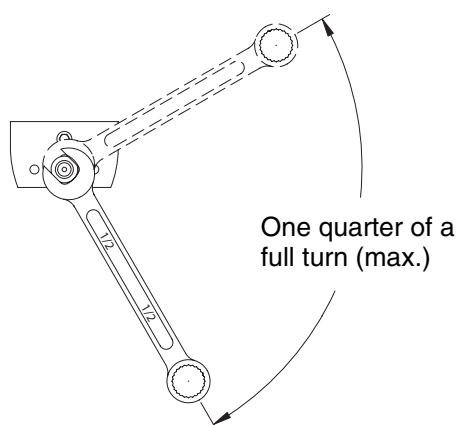

FIG. 8. Tighten Check Valve Retainer
- Place check valve assembly in check valve retainer and thread into side block finger-tight. Use a 1/2 in. wrench to tighten retainer 1/4 turn and **no more**. See FIG. 8.